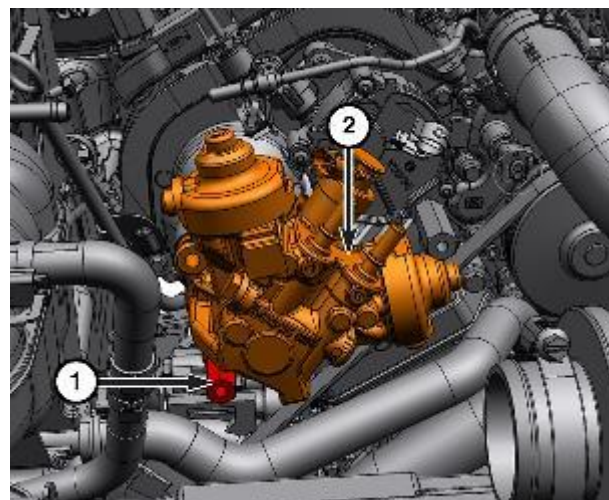

Figure 50 - Lower HPFP Bolt
29. Remove the lower bolt (1) from the HPFP (2) and remove it from the vehicle (Figure 50).
63. Install the lower fuel injection pump (2) and hand tighten the bolt (1) (Figure 50).
65. Tighten the bolts (1) that secure the fuel injection pump to 25 N·m (18 ft. lbs.) (Figure 49 and Figure 50).